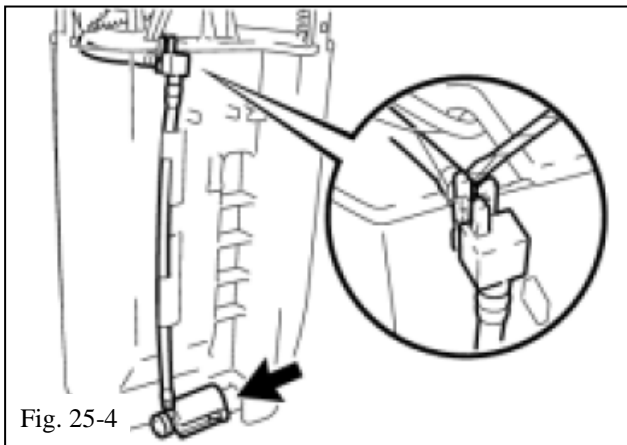

Fig. 25-4
- (d) Use a small screwdriver to detach the claw on the end of the tube from the claw hole. Disconnect the tube from the 2 clamps (Fig. 25-4).